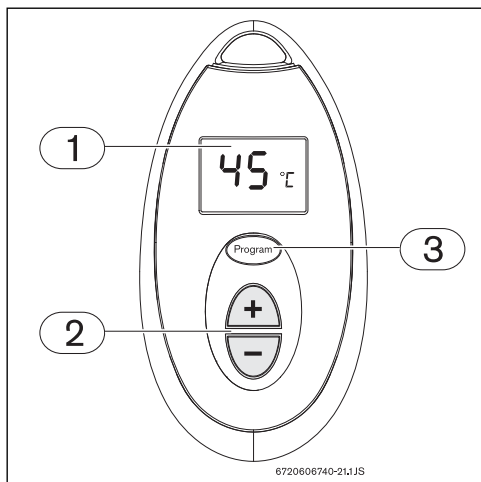

Fig. 13 Memorizing water temperature
- ▶ Press the buttons  or  on the remote control (Fig. 13,[2]), until the required temperature appears on the remote control display (Fig. 13, [1]).
- ▶ You will now be able to memorize this temperature by pressing the “Program” button on the remote control (Fig. 13,[3]) for 3 seconds.